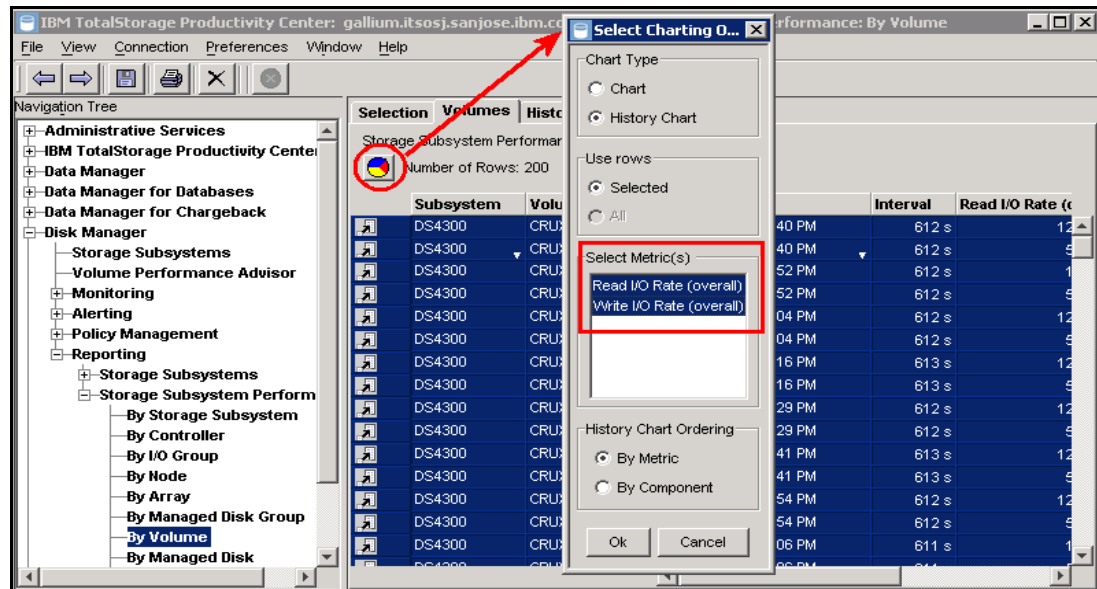

Figure 7-37 Select Charting window
- Now we generate a chart. Select all of the results and click the chart icon, then select **History Chart** and all of the metrics, as shown in Figure 7-37.